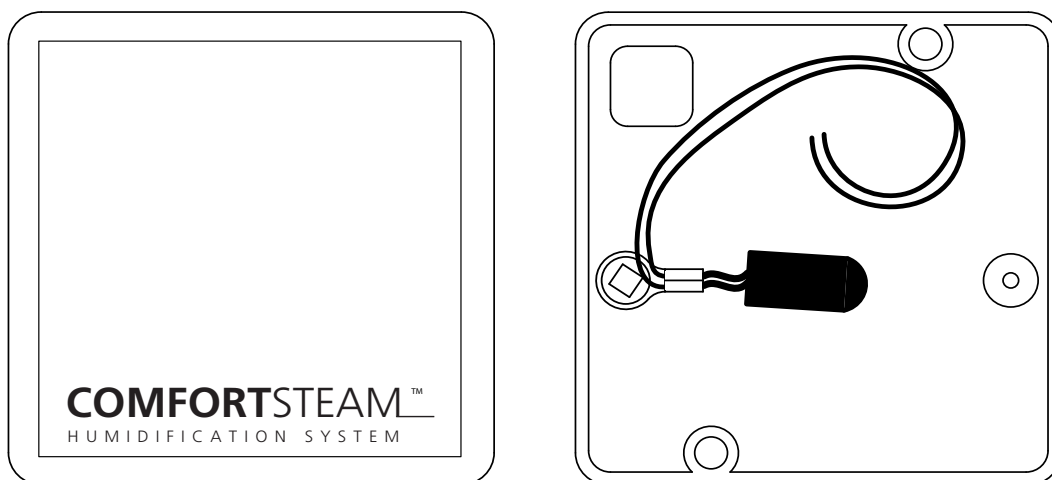

Fig. 1c
1.3 The outdoor sensor (please see Fig.1c) is supplied with the humidistat (wall or duct mount). It ideally should be installed on an outside wall facing North. This outdoor sensor automatically reduces the setting of the humidistat according to the outdoor temperature in order to avoid condensation on windows during extremely cold days. It does the opposite during the mild days without your having to manually adjust the humidistat. The outdoor sensor is a 10 kilo-ohms NTC thermistor (negative temperature coefficient).